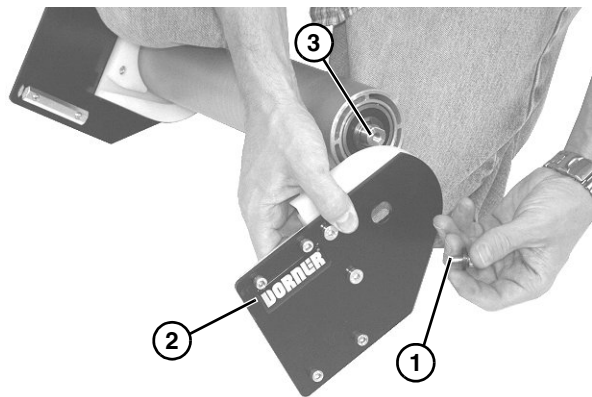

Figure 36
4. Remove socket head screw (**Figure 36, item 1**) from plate (**Figure 36, item 2**) and center of spindle shaft (**Figure 36, item 3**). Repeat procedure on opposite side.